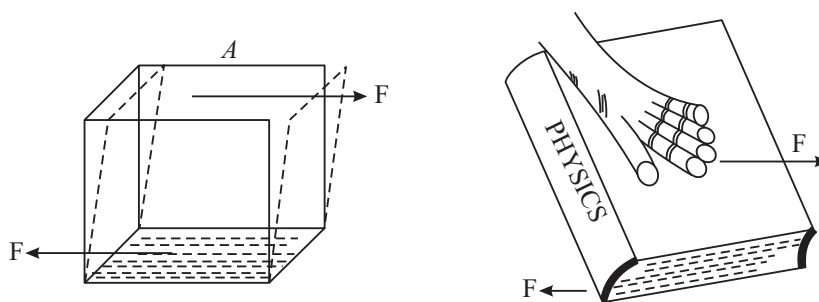

Fig. 8.5: (a) Shearing stress; (b) Pushing a book side ways
- (iii) **Shearing Stress** : If the deforming forces act tangentially or parallel to the surface (Fig 8.5a) so that shape of the body changes without change in volume, the stress is called **shearing stress**. An example of shearing stress is shown in Fig 8.5 (b) in which a book is pushed side ways. Its opposite face is held fixed by the force of friction.